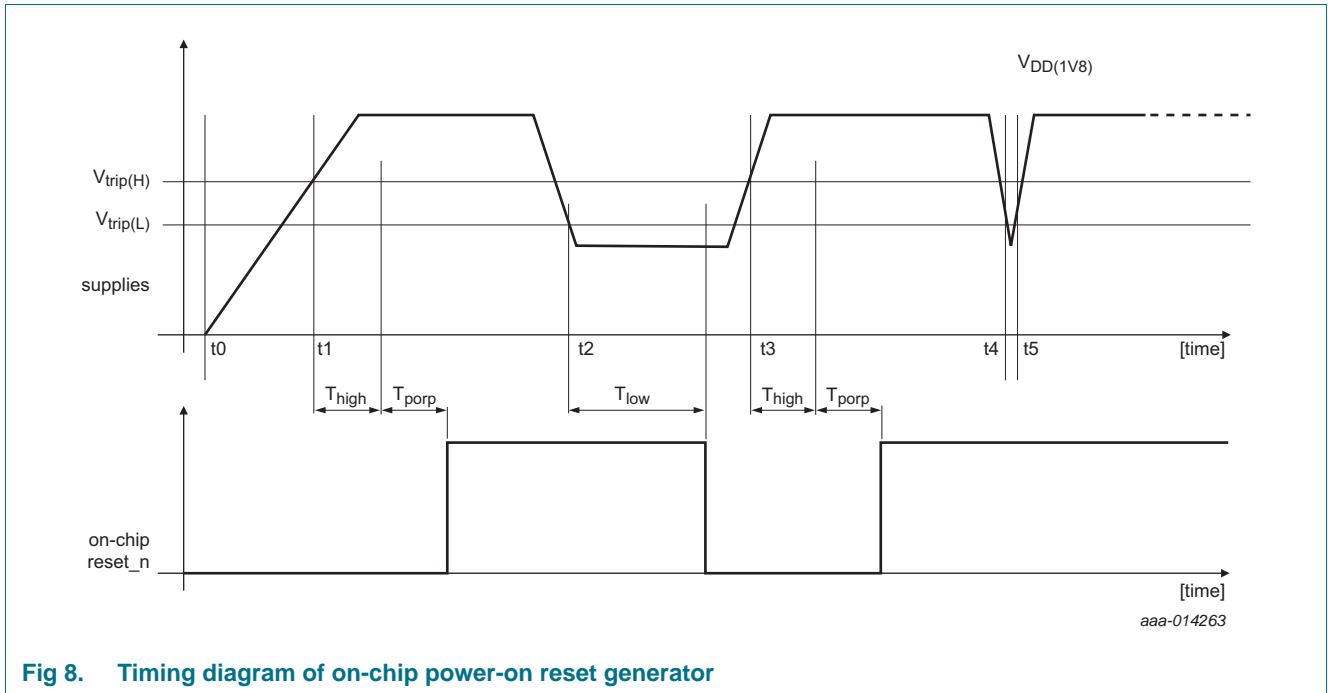

Fig 8. Timing diagram of on-chip power-on reset generator
Figure 8 shows a possible curve of the regulated VDD(1v8) voltage with dips at t2 to t3 and t4 to t5. The on-chip reset_n (active LOW) starts active at t0. At t1, the voltage gets higher than the Vtrip(H) level and if this condition is maintained for a period longer than Thigh, a delay element will add another Tporp before the on-chip reset_n is de-asserted. If the voltage drops below Vtrip(L) for a period longer than Tlow, the reset_n is re-asserted. If the supply dip is shorter (eg. t4 to t5) the internal reset is not asserted. This means that voltage drops less than Tlow must be avoided in the system.